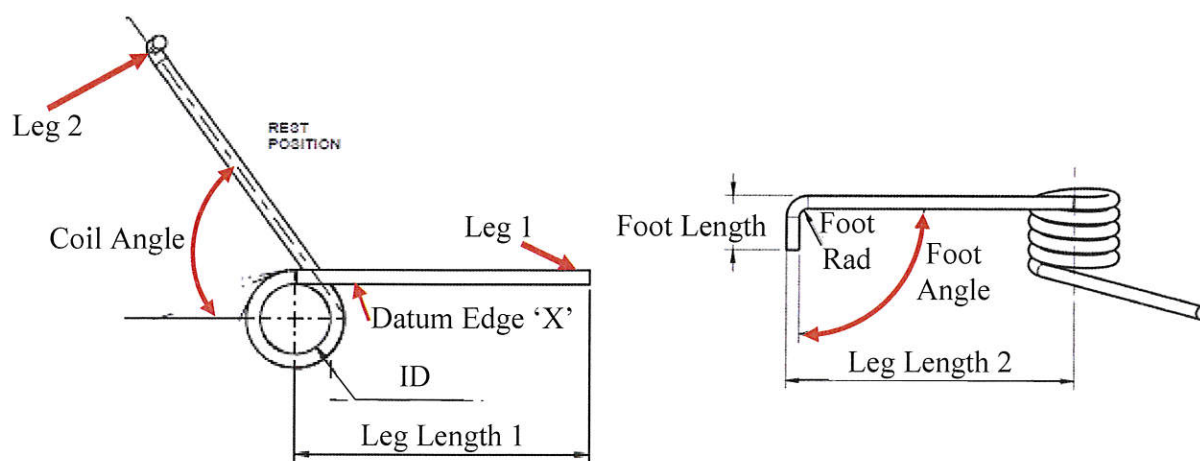
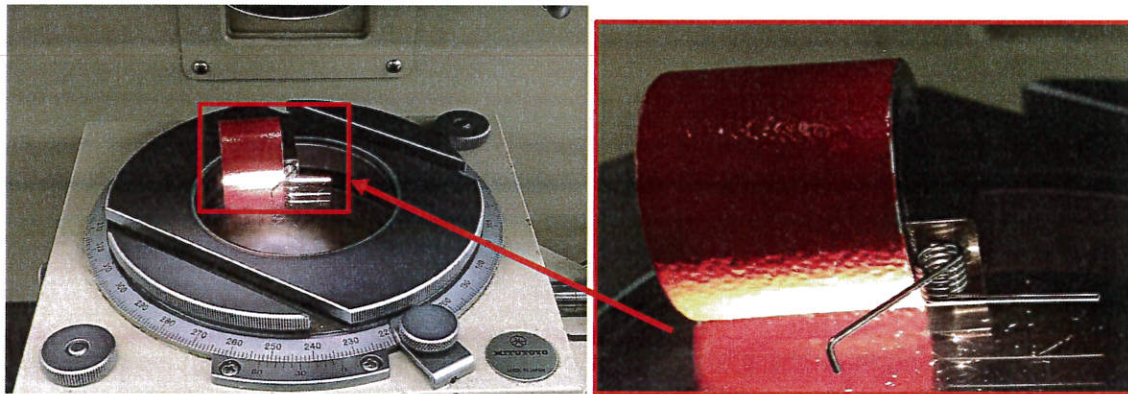
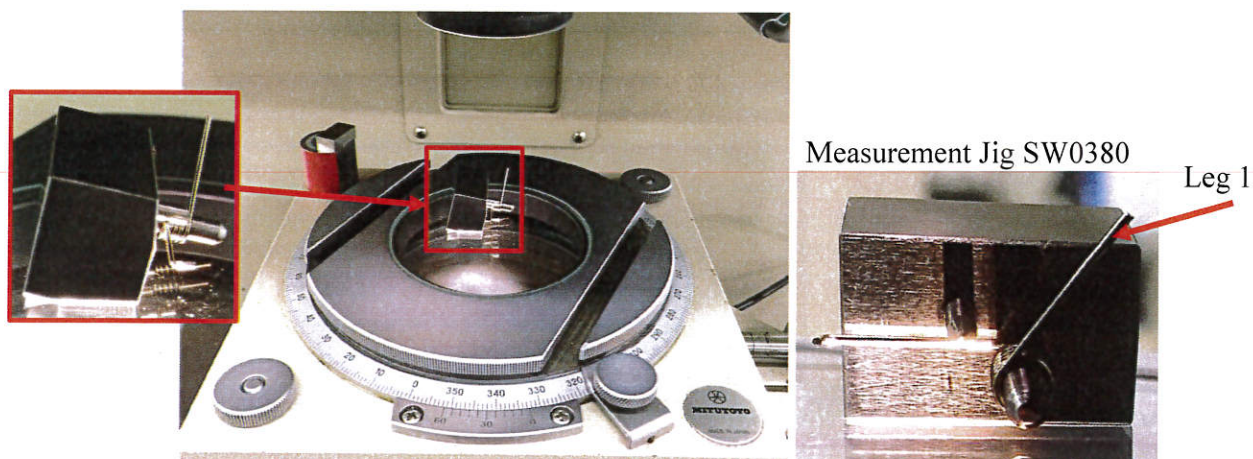
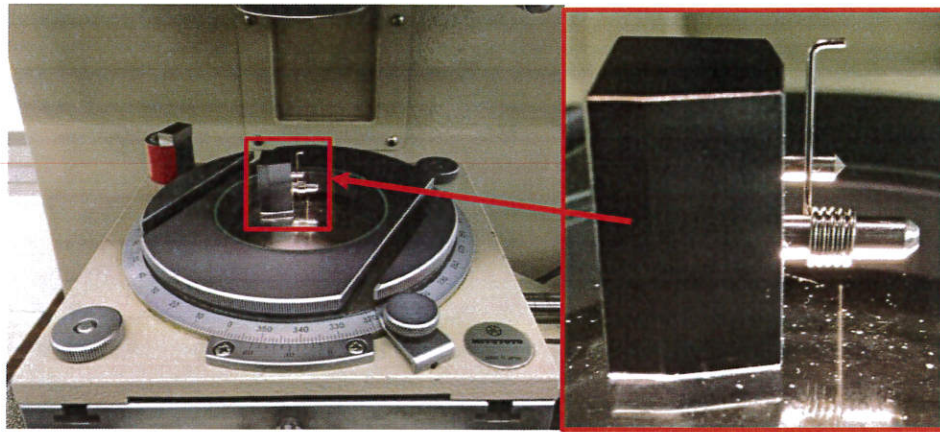

Figure 4: Dimensions to be checked.
Figure 9: Component orientation change.
Figure 11: Component in place on the flat glass on the measurement jig SW0380.
Figure 15: Rotate measurement jig SW0380 onto the smaller end.
6.2.5. Change the Orientation of the Component. Place the component on the magnetic stand with the Leg 2 as identified in Figure 4: at the top, then return it to the flat on the glass stage of the profile projector, as shown in Figure 9:
6.2.7. **Change the Orientation of the Component.** Place the component on the Measurement jig SW0380 with the Leg 1 as identified in Figure 4: at the top, then return it to the flat on the glass stage of the profile projector, as shown in Figure 11:
6.2.11. Change the Orientation of the Component. Rotate the Measurement jig SW0380 with the component Leg 2 as identified in Figure 4: at the top, then return it to the flat on the glass stage of the profile projector, as shown in Figure 15: